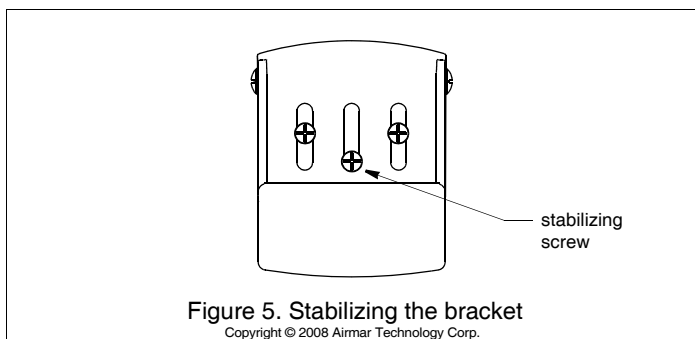

Figure 5. Stabilizing the bracket
1. Apply marine sealant to the threads of two, #10 x 1-1/4", self-tapping bracket screws to prevent water seepage into the transom. *Be sure the nuts are in the slots in the back of the bracket and any shim(s) is in place* (Figure 1). Screw the sensor to the hull (Figure 5). *Do not tighten the screws completely at this time.*
Stabilize the bracket by installing the third bracket screw at the bottom of the center slot (Figure 5). Using a 4mm, #23, or 9/64" drill bit, drill a hole 22mm (7/8") deep.